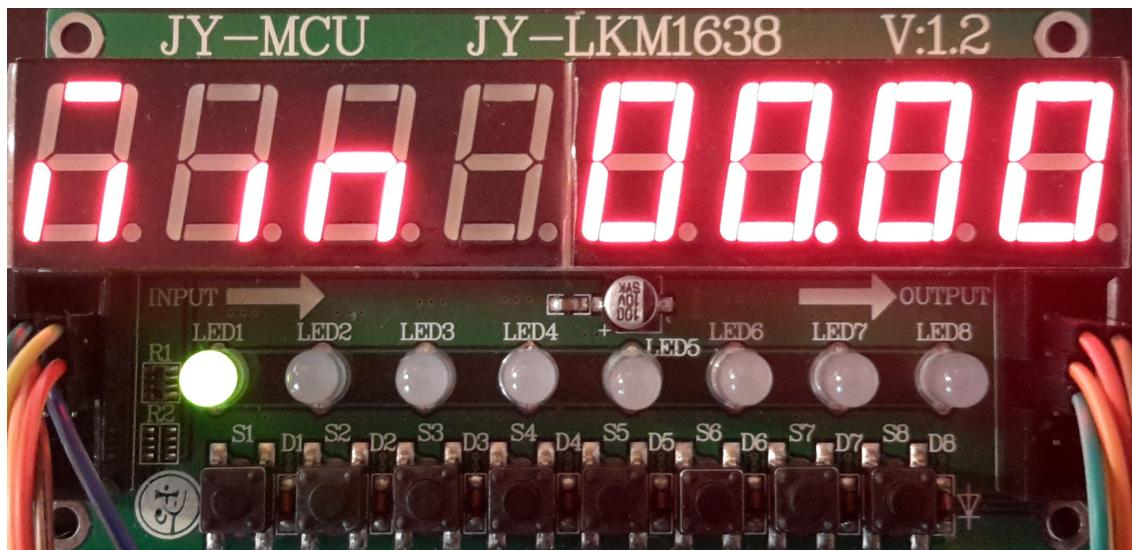

Figure 8: Timer entry showing prompt for desired number of minutes. The unusual “M” is due to the limited possibilities for character display on 8-segment LEDs.
5. The display will now show “Min” to signify entering minutes (fig. 8 on the facing page.)